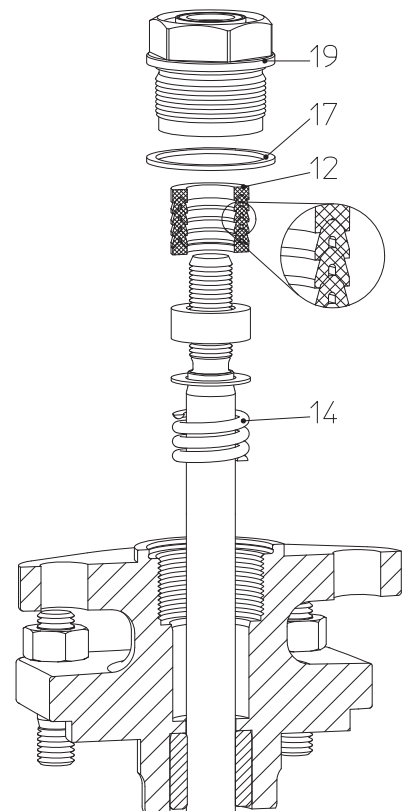

Fig. 12:
- When replacing V-ring unit (pos. 12), make sure that the parts are installed in the correct order and positions (refer to Fig. 12).
- Gasket (pos. 17) must be replaced.